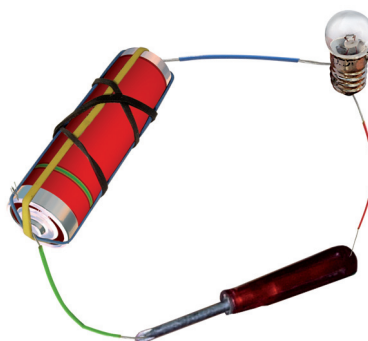

Fig. 9.13
3. Explain why the bulb would not glow in the arrangement shown in Fig. 9.13.